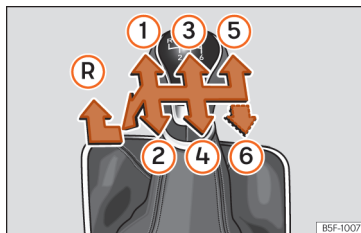

Fig. 136 Gear shift pattern of a 5 or 6-speed manual gearbox.
The position of the gears is indicated on the gearbox lever **»» Fig. 136**.
»» Fig. 136 (R).